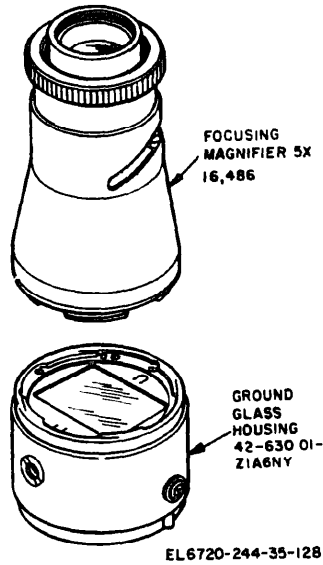

Figure 6-22. Ground glass housing 42-630.01-Z1A6NY, and focusing magnifier 5X, 16,486.
b. Test Equipment (fig. 6-22). The checks require the use of the following test equipment:
(1) Ground glass housing 42-630.01-Z1A6NY.
(2) Focusing magnifier 5X, 16,486.
(1) Ground glass housing 42-630.01-Z1A6NY (fig. 6-22).
(2) Focusing magnifier, 5X, 16,486 (fig. 6-22).